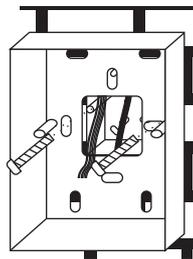

figure4
4. Fix the bottom case in the 86box with 2 screws (figure4)